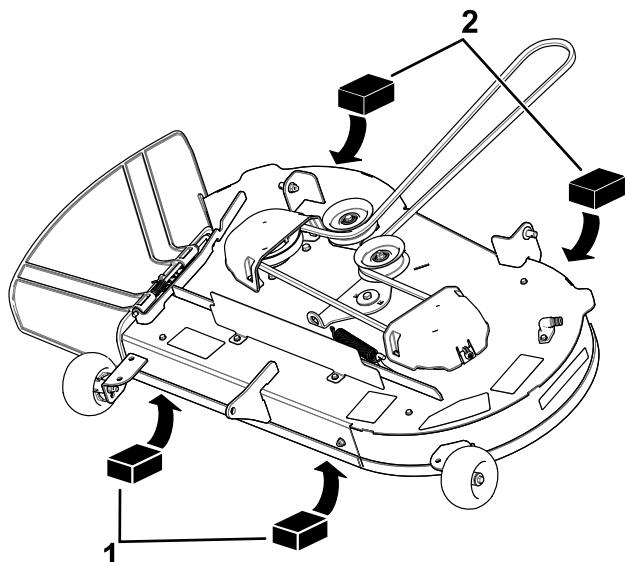

**Figure 64**
5. Measure from the tip of the front blade to the flat surface and the tip of the rear blade to the flat surface (Figure 63 or Figure 64).